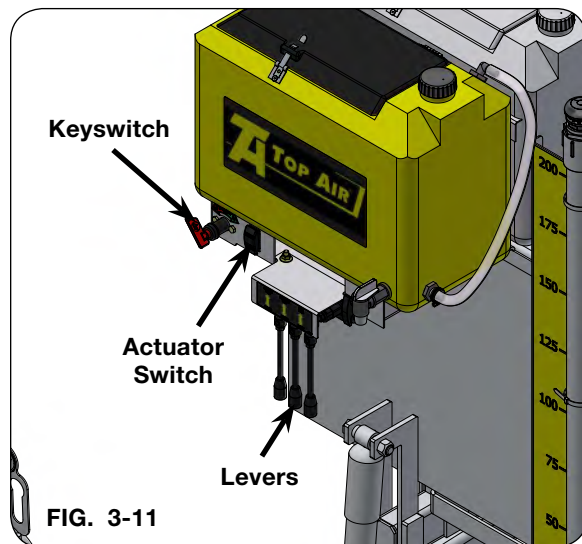

FIG. 3-11
2. Turn battery charging shutoff keyswitch to "ON". (FIG. 3-11)
6. Unfold the boom by operating the lever for main wing and the lever for mid wing. (FIG. 3-11)